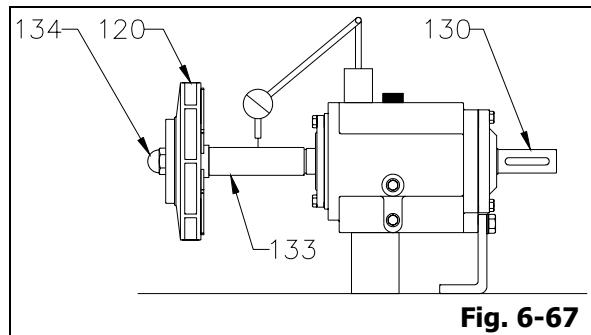

Fig. 6-67
19. Check shaft and shaft sleeve (133) run out. Put on shaft sleeve (133), key for impeller (135), impeller (120), and thread on impeller nut (134), hand tight. Rotate shaft (130) 360° . If total indicator reading is greater than 0.05mm, disassemble and determine cause. Remove impeller nut (134), impeller (120), key for impeller (135) and shaft sleeve (133) (Fig. 6-67).